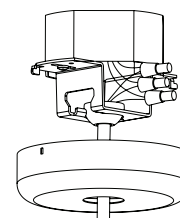
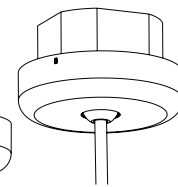

FIG. 5
FIG. 6
5. Insert the pendant stem ball in the crossbar. Splice fixture leads to incoming leads, ground crossbar and install canopy. **FIG. 5 and FIG. 6**